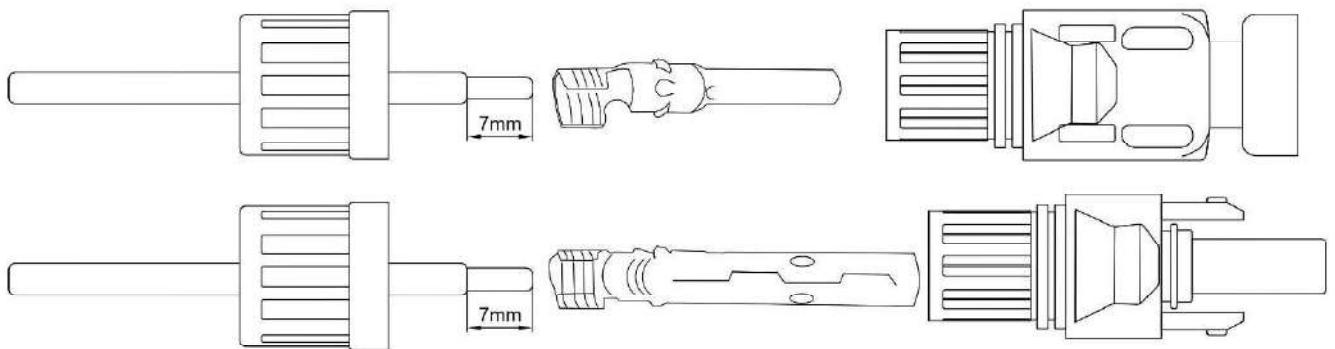

Figure 2.12 Connector cover nut
1. Peel off the DC line about 7mm and remove the connector cover nut see figure 2.12.